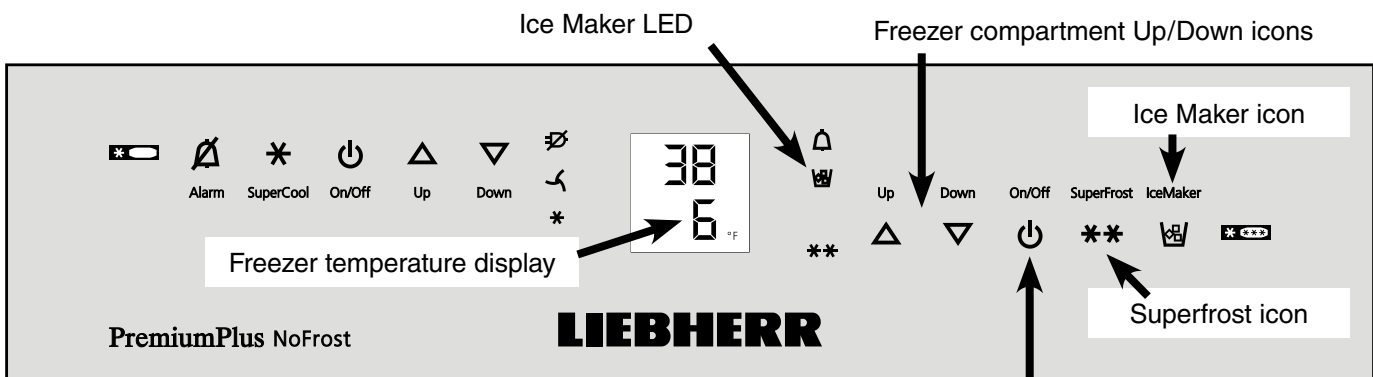

Figure 23
- Turn the Ice Maker on by touching the Ice Maker icon (**Figure 23**).
- Touch the **Ice Maker icon** so the **Ice Maker LED** comes on (**Figure 23**).
When the interior temperature appears in the display, the tray is in the down position (**Figure 23**) and the ice maker is turned off automatically.
- Push down the button of the air filter, tilt to the front and remove - **Figure 23**.